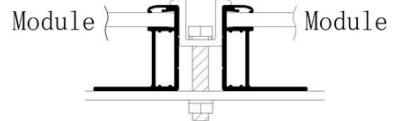

Figure 5-b Intermediate fixture
1. The installation of the long side frame of the module vertical to the support is shown in Figure 5-a, the fixed position of the module fixture is shown in Figure 5-a-1, each place is provided with one fixed point, four fixed points in total. (Recommended fixture mounting torque: 16N.m - use M8 bolts)